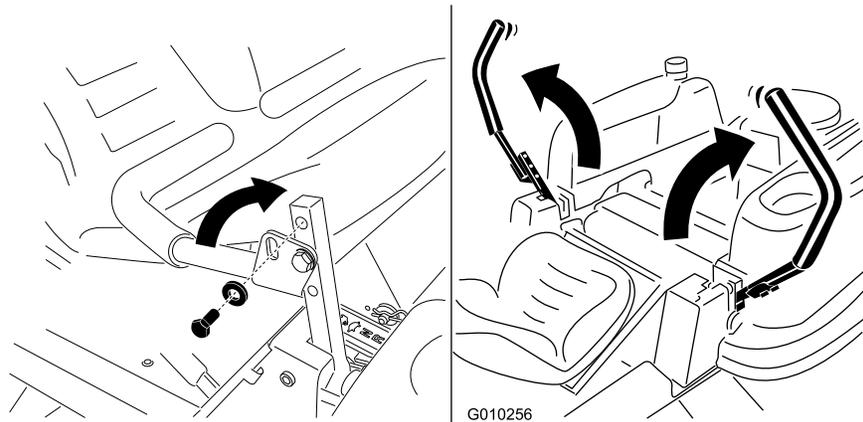

Figure 2
1. Remove the upper bolt (3/8 x 1 inch) and washer; loosen the lower bolt (3/8 x 1 inch) as shown in Figure 2.
2. Align the holes in the motion control lever with the holes in the control arm shaft and install the bolt and washer removed previously (Figure 2). Hand tighten all fasteners. Repeat this for both controls levers. Move the motion control levers into the neutral lock position.